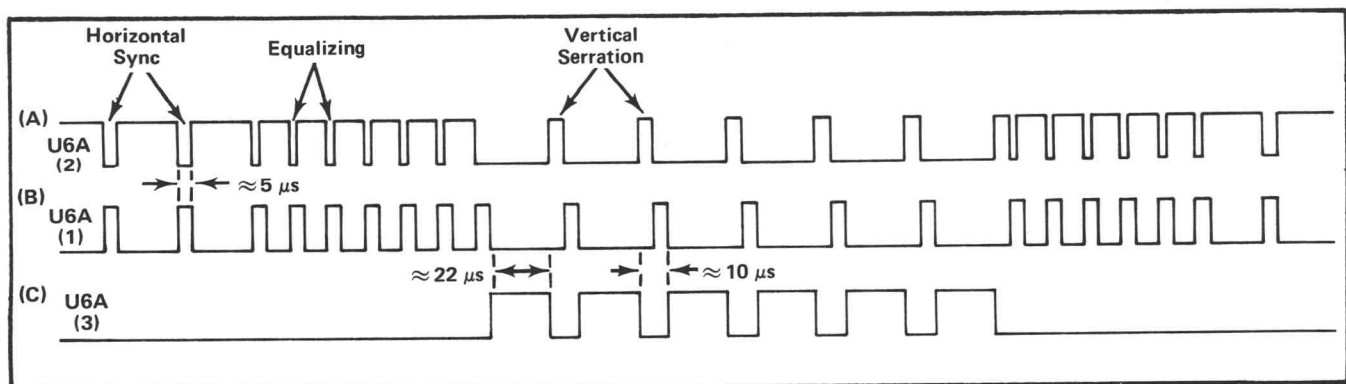

Fig. 3-13. Waveforms illustrating the inputs and output of U6A during External Signal In operation.
The signal on the emitter of U3C is also coupled to U6A (2). The other input to U6A is from the flip flop consisting of U8A and U9A. The flip flop is triggered by the positive-going sync pulses in the composite sync signal. The output of the flip flop, U9A (1), is positive-going pulses approximately 5 μ s in duration. The time constant for the multi is determined by C8 and R8. The two input waveforms to U6A and the output waveform appearing at U6A (3) are illustrated in Fig. 3-13. The output waveform at U6A (3) is coupled to U70A (2). The other input to U70A is from the flip flop consisting of U45A and U44C. Since U39B (9) is locked in the 0 state, the output of the flip flop, U44C (5) also remains in the 0 state. Therefore, the signal from U6A (3) is inverted by the gate and coupled through inverter U76B to the vertical ramp circuit. The vertical ramp timing capacitor is discharged by the positive-going pulses occurring during the vertical pulse time.